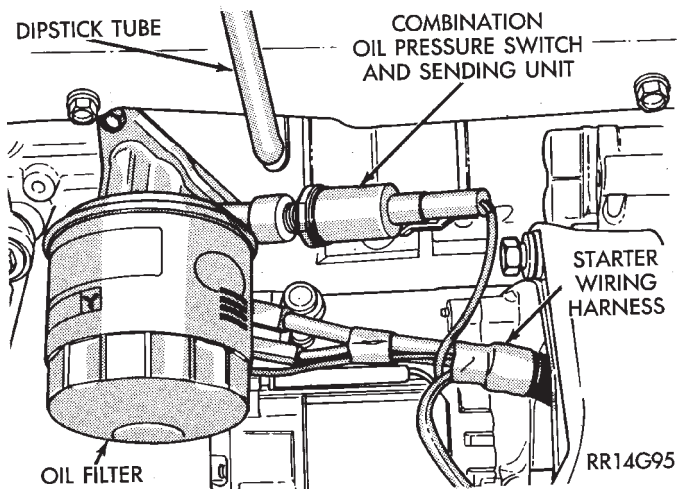

Fig. 9 Oil Pressure Sending Unit Electrical Connection
(14) Ensure the harness connector is securely attached to each fuel injector.
(15) Check the oil pressure sending unit electrical connection (Fig. 9).